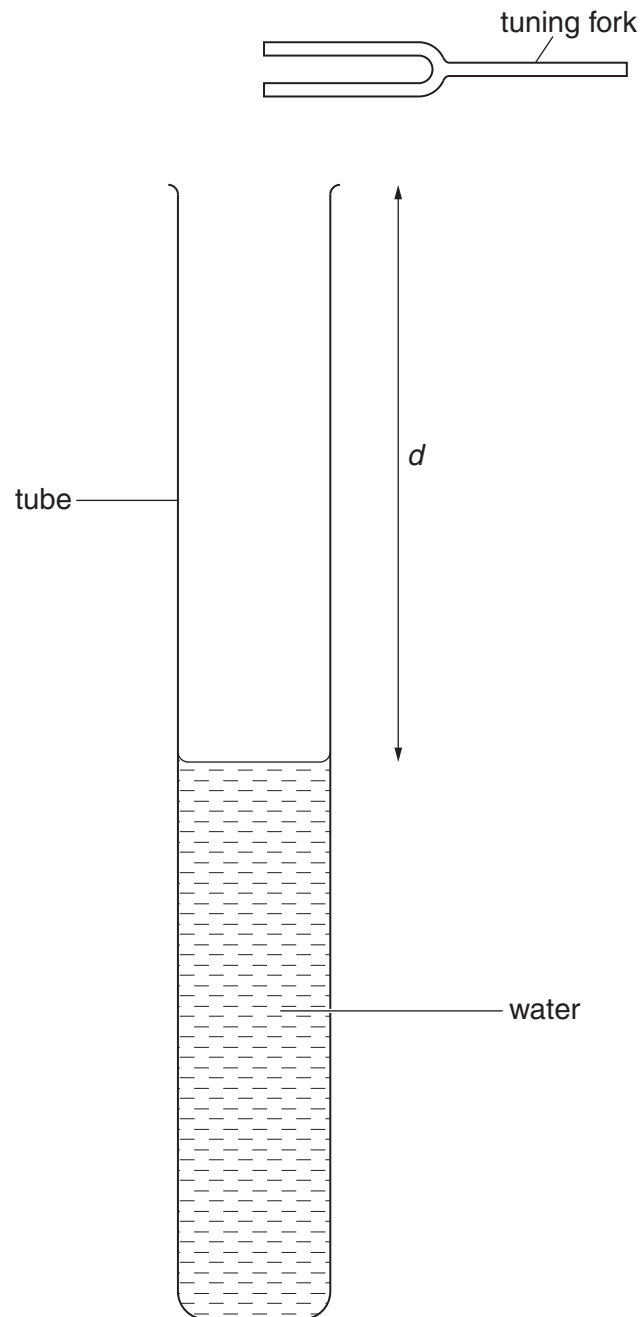

Fig. 2.1
- 2 A student is investigating resonance of the air column in a tube using the apparatus shown in Fig. 2.1.